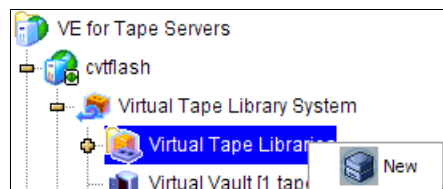

Figure 6-86 Cached virtual library creation: Invoke wizard
1. To start the wizard select **Virtual Tape Libraries** → **New**, as shown in Figure 6-86.